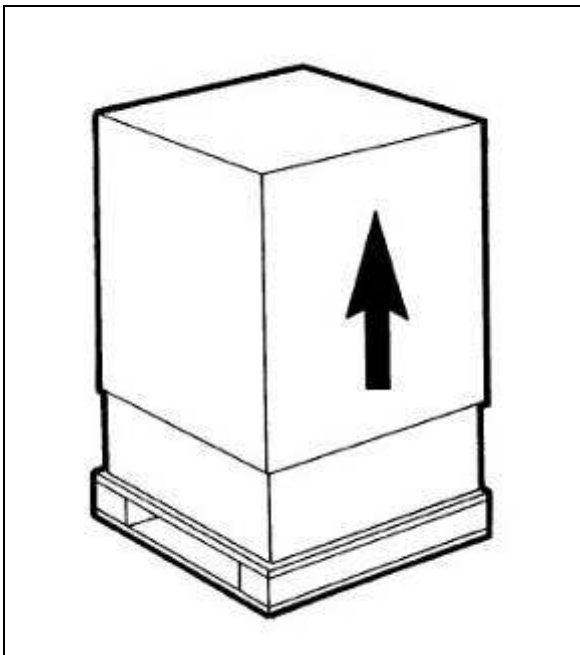

Fig. 1
- a) Remove the packing (fig.1) and preserve it in order to reuse for winter storage.